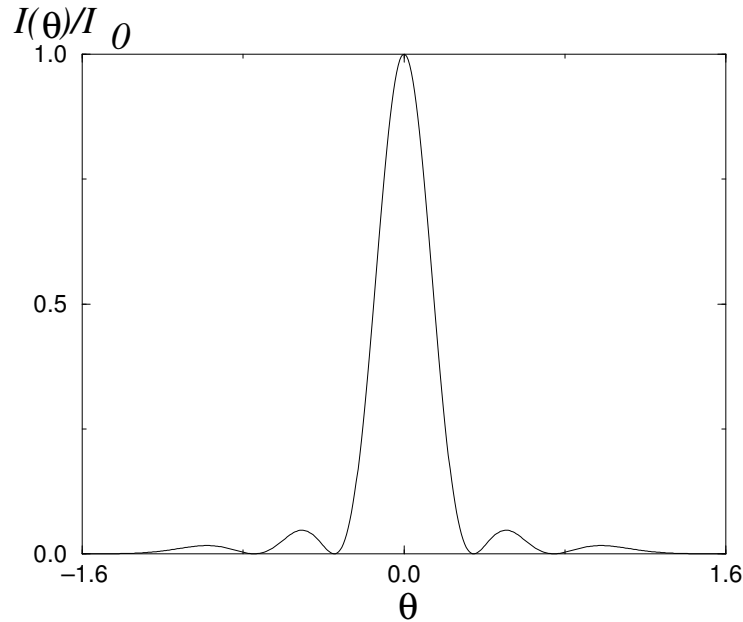

Figure 10.12: Intensity pattern for a single slit diffraction experiment.
which is plotted in Fig. 10.12 as a function of  $\theta$  for  $a = 3\lambda$ . This pattern depicts the intensity of light available at various points from a single slit.
**Question 0:** What does this pattern, specifically the brightness of the spots, have to do with Fig. 10.12?